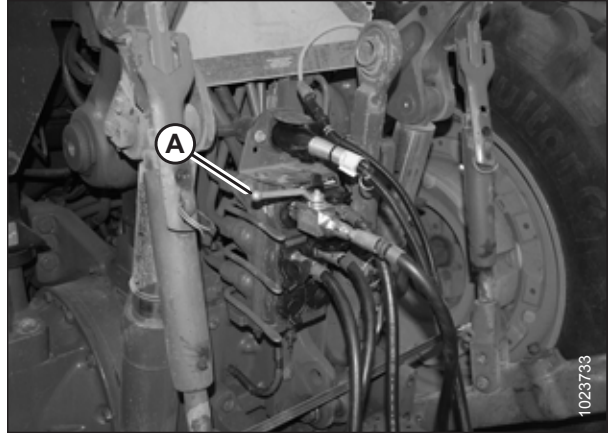
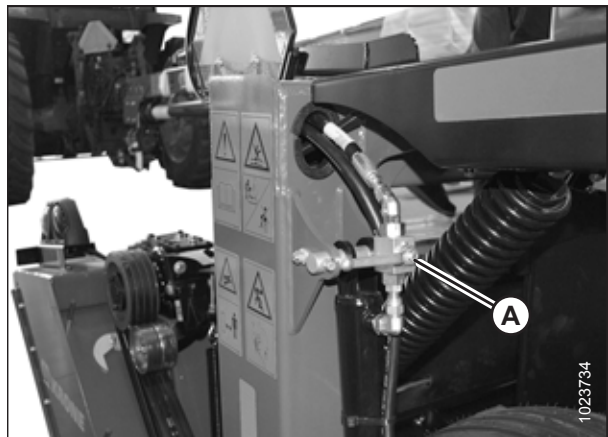

Figure 3.82: Steering Lock-Out Valve
Figure 3.83: Lift Cylinder Lock-Out Valve
10. Close the steering lock-out valve and the two lift cylinder lock-out valves by turning the handles to the closed position. Refer to Figure 3.82, page 80 and Figure 3.83, page 80.